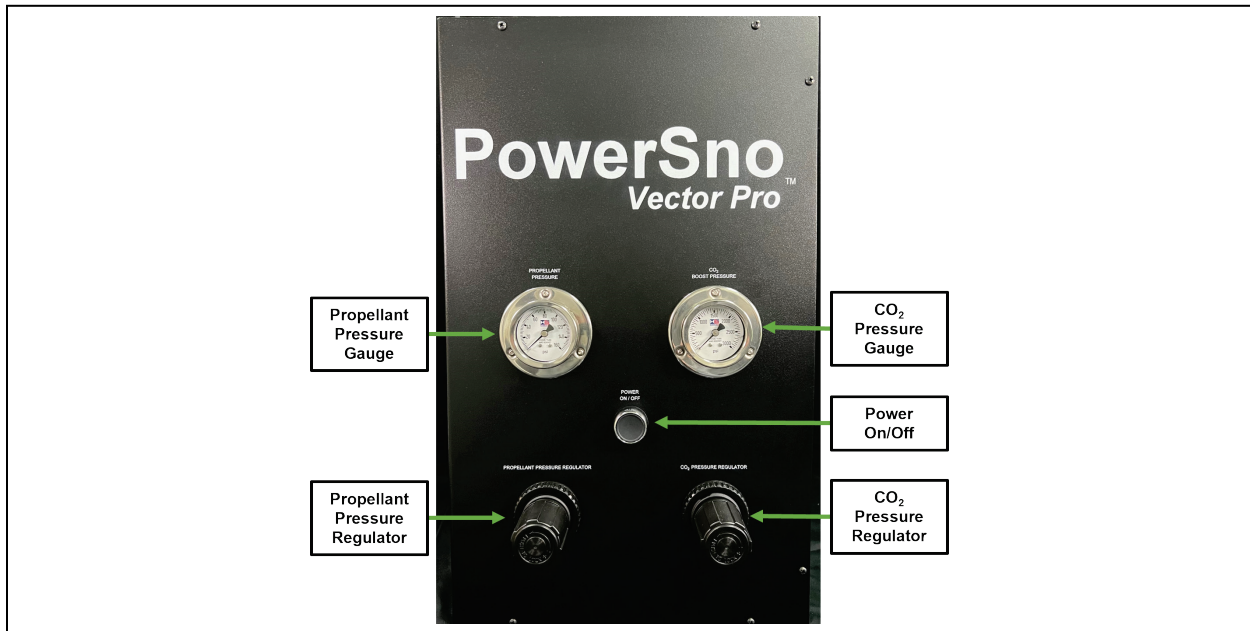

Figure 1 – PowerSno Vector Pro Universal Spray Treatment System™ Front Panel
12. After completing all the steps above, the operator can then press the ON/OFF button located on the front panel of the PSVP-USTS™ shown in Figure 1 to the ON position (pressed in). After verifying the spray applicator is mounted securely or held firmly, the operator can then begin spraying by actuating the solenoid valves within the PSVP-USTS™ using a footswitch, finger-trigger, or remote relay contact closure shown in Figures 8, 9, & 10.
Shown in Figure 1 & 2, controls include a main power switch, propellant pressure regulator and gauge, liquid carbon dioxide pressure regulator and gauge, and a coaxial spray applicator. The PSVP-USTS™ liquid CO₂ injection is controlled using a coaxial 0.008-0.030 inch capillary condenser tube fed by a proprietary high pressure hose. A proprietary low-pressure hose is brought in unison up to the spray applicator to mix both air and CO₂ particles that are propelled at a surface.